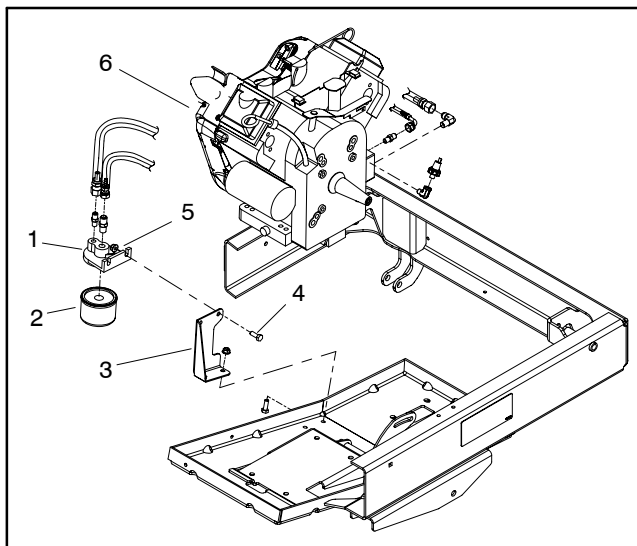

Figure 16
10. Remove two (2) cap screws and flange nuts that secure oil filter adapter to filter bracket (Fig. 16). Carefully place filter and adapter to allow them to be removed with engine.
3. Install four (4) cap screws and flange nuts to engine and engine tray. Position engine on engine tray to align clutch drive pulley and driven pulley on transaxle. Tighten fasteners.
4. Carefully position oil filter assembly to filter bracket (Fig. 16). Secure filter adapter with two (2) cap screws and flange nuts.